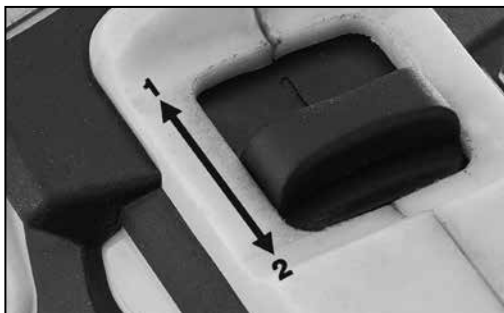

FIG. 5
6.5 TWO SPEED GEAR BOX – FIG.5